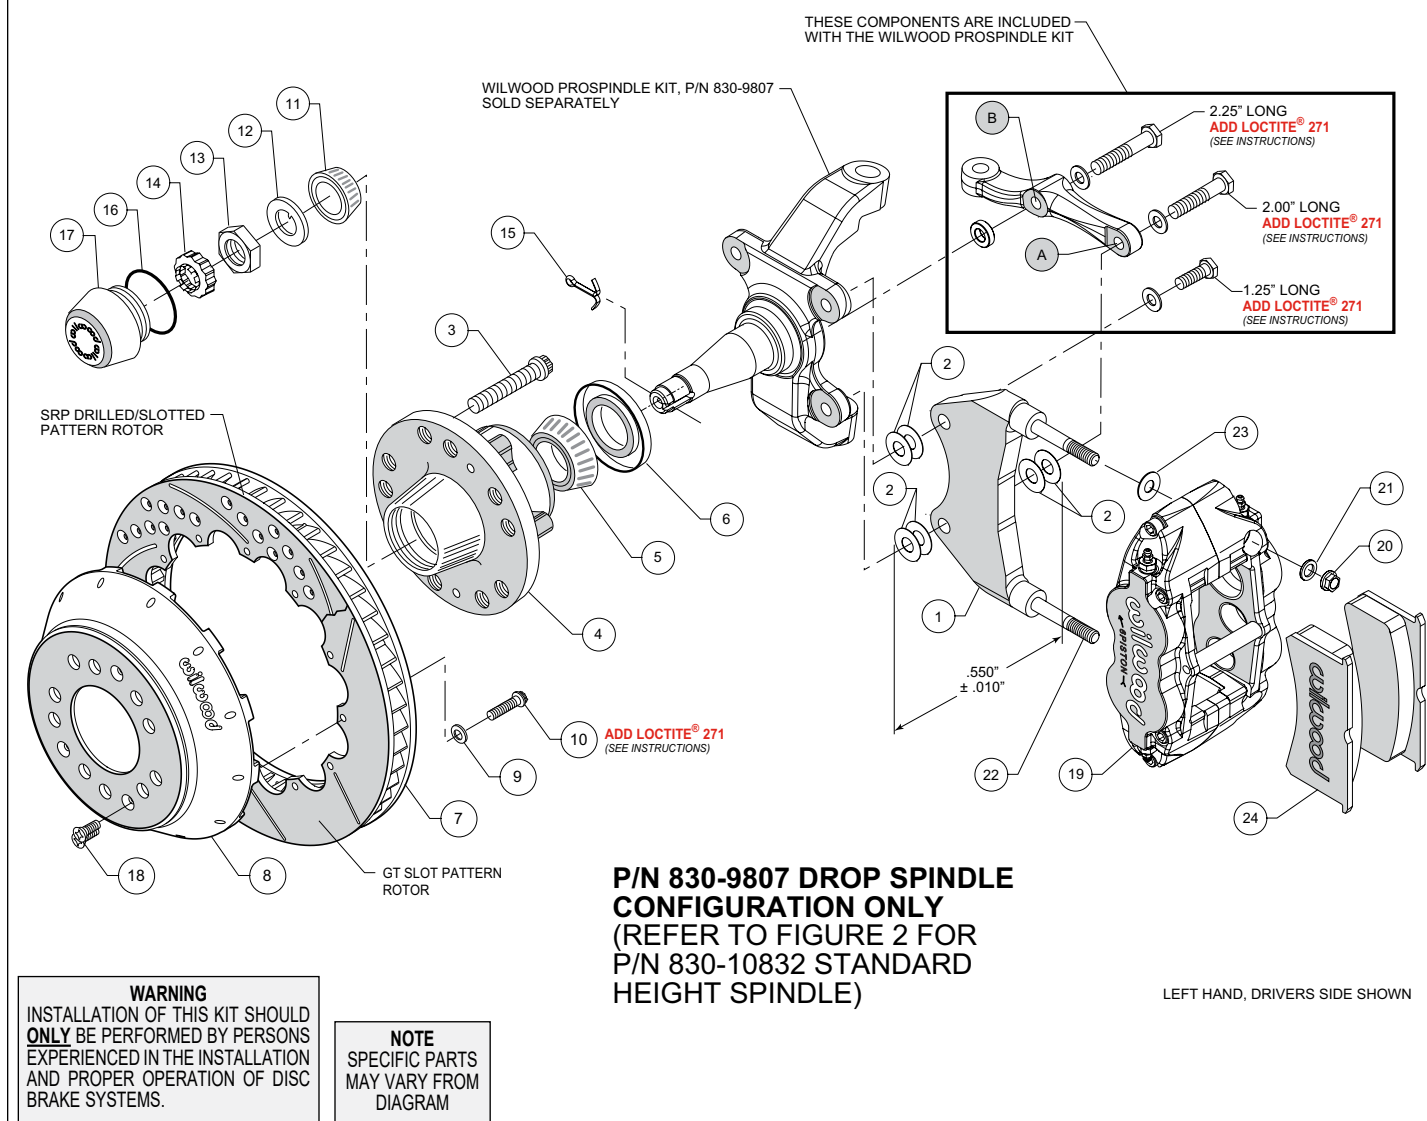
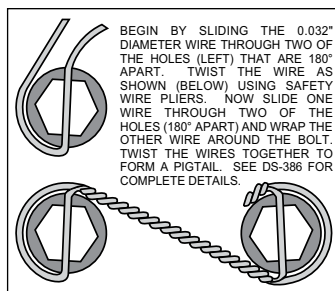

Figure 1. Installation Configuration For Drop Spindle, P/N 830-9807
Figure 4. Safety Wire Diagram
NOTE: Numbers in parenthesis refer to the parts list and Figure 1 on the preceding pages.
•**NOTE:** Each Wilwood ProSpindle kit includes bolts, washers, and a spacer to mount the steering arm and caliper bracket. The various bolts are identified by length in the following instructions and in Figures 1 and 2.
- Orient the bracket as shown in Figure 1 and Photo 1. Install at top spindle hole using 1.25" long bolt and .06" thick washer (from ProSpindle kit), and two .016" thick shims (2) between the bracket and spindle, Figure 1.
- Orient the steering arm, and identify the hole marked 'A', as shown in Figure 1. Install at bottom spindle hole using 2.00" long bolt and .06" thick washer (from ProSpindle kit), two .016" thick shims (2) between the bracket and steering arm, and another two .016" thick shims (2) between the bracket and spindle, Figure 1. The bracket is located between the steering arm and spindle. **NOTE:** The bracket and shim washers must add up to a total thickness of .550" \pm .010", Figure 1.
- Finish attaching the steering arm through the hole marked 'B', as shown in Figure 1. Install using 2.25" long bolt, .06" thick washer, and .25" thick spacer (all from ProSpindle kit), Figure 1.
- Screw dust cap (17) into hub (4). Friction created by the o-ring (16) on the dust cap keeps it from unscrewing.
- Orient the rotor (7) and the hat (8) as shown in Figures 1 or 2, and Photo 6. Attach rotor to hat using bolts (10) and washers (9). Apply red *Loctite*® 271 to the bolt threads and torque to 155 in-lb using a criss-cross pattern. For an added measure of security, the bolts may be safety wired using standard 0.032 inch diameter stainless steel safety wire as shown in Figure 4. Refer to Wilwood's data sheet DS-386 (available at www.wilwood.com/Pdf/DataSheets/ds386.pdf) for complete safety wire installation instructions.
- Slide the hat/rotor assembly (8 and 7) onto the hub (4) taking care to align the small countersunk holes in the hat with the small threaded holes in the hub. **NOTE:** The hat must fit flush against the hub face or excessive rotor run out may result. Install three flat head screws (18) through the small holes in the hat (8), and torque to 85 in-lb.
NOTE: This kit contains distinct right and left hand calipers that must be mounted in a specific direction, as described below. Initially place one .035" thick shim (24), and spacer (23) on each stud (22) as shown in Figure 1 or 2, and Photo 7. Mount the caliper (19) onto the bracket (1) using lock nuts (20) and washers (21), Figure 1 or 2. Ensure that the caliper is mounted so that the largest pistons are at the rotor exit end of the caliper, in relation to the direction of rotor rotation. Temporarily tighten the lock nuts and view the rotor through the top opening of the caliper. The rotor should be centered in the caliper, Photo 8. If not, proceed as follows:
- Adjust by adding or subtracting shims (2) between the bracket and the spindle. Always use the same amount of shims on each of the two bolts between bracket and spindle.
- For the lower bracket mount bolt, if a shim was added between the bracket and spindle, then a shim must be removed between the steering arm and bracket, such that the total thickness of bracket and shims remain equal to $.550 \pm .010$ ", Figure 1.